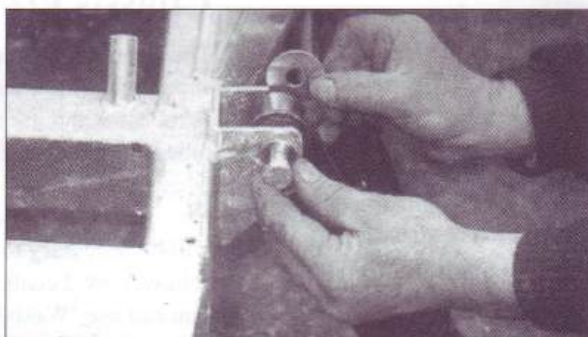

Fig.2c. Fitting packing washers.
2. Fit packing washers between the the rubber pivot bushes and the bracket to take up any space and ensure a snug fit as shown fig.2c.